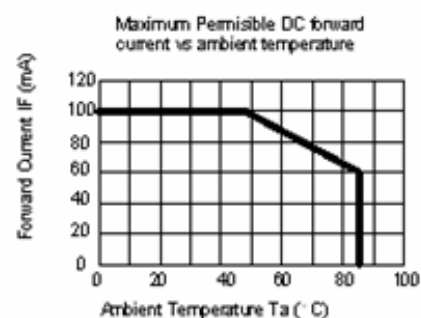

FIG.6 DC FORWARD CURRENT VS. AMBIENT TEMPERATURE DERATED (Based on T_{JMAX}=110°C)
1. Derate as shown in Figure 6.